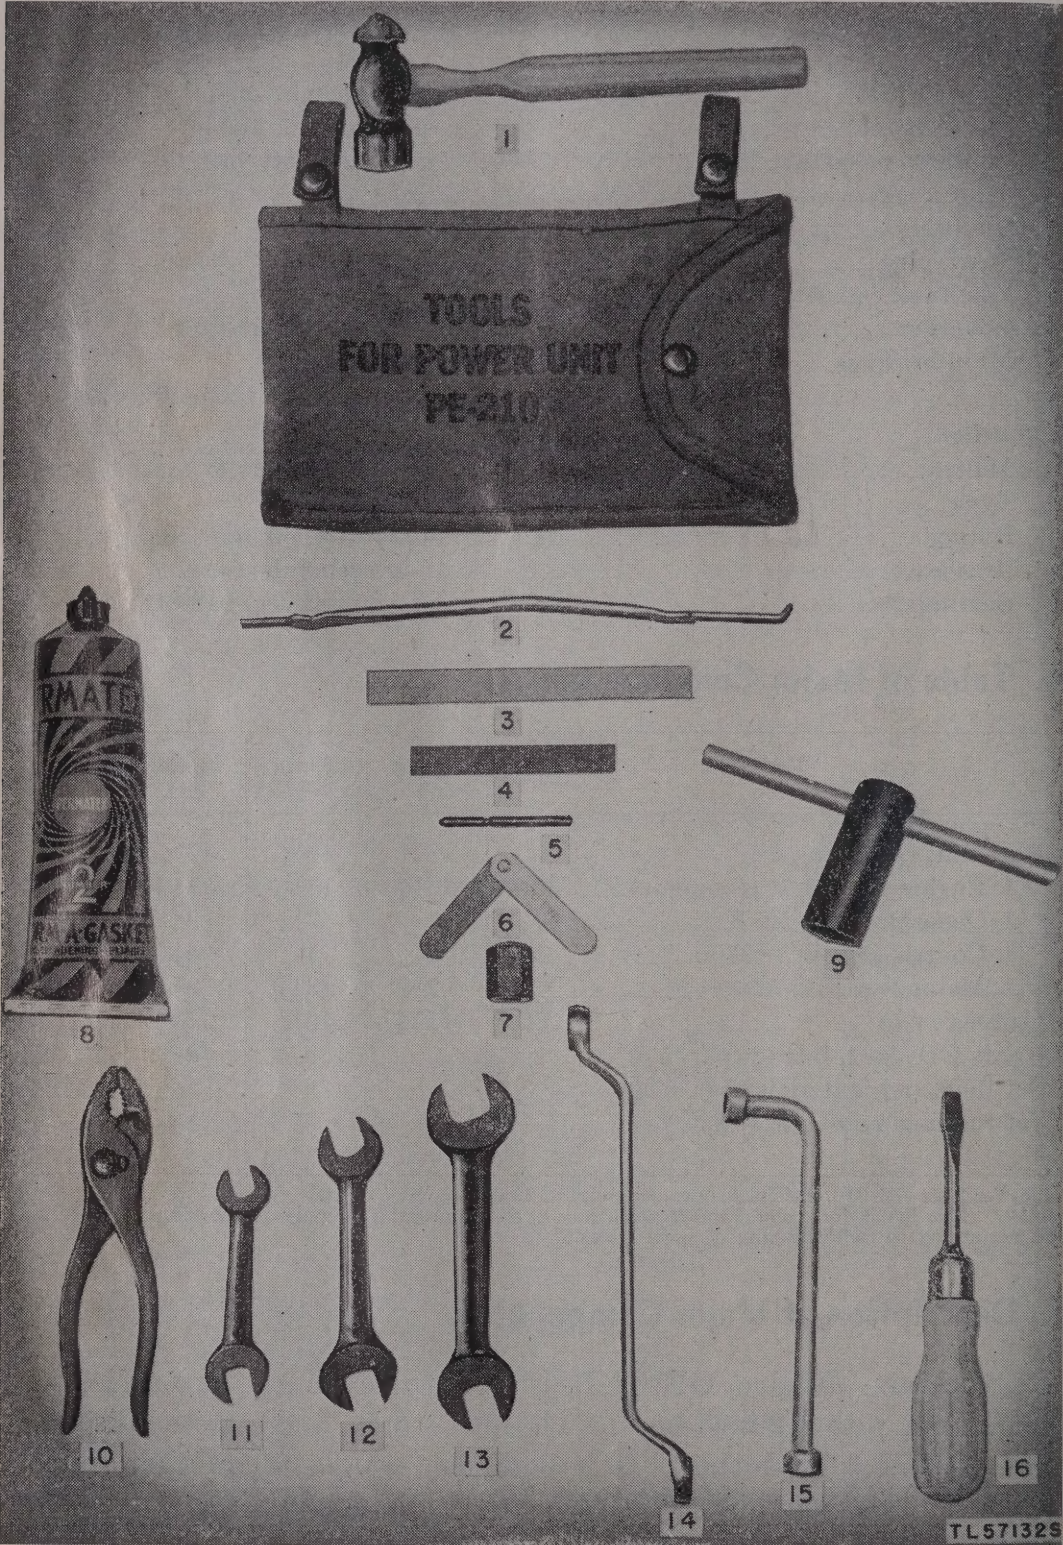

Figure 3. Tools and materials.
h. **TOOLS AND MATERIALS (fig. 3).** The following tools and materials are furnished with Power Unit PE-210: